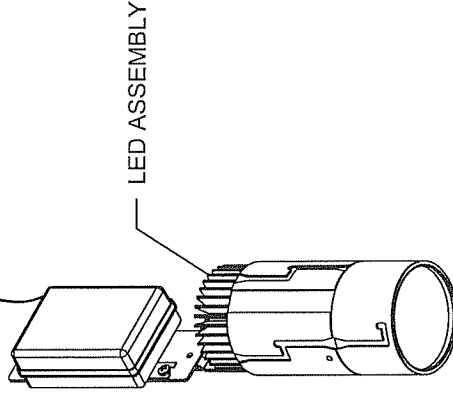

FIG 2
2. Make power connection to LED assembly using previously supplied power feed and supplied connector as shown in FIG 2.